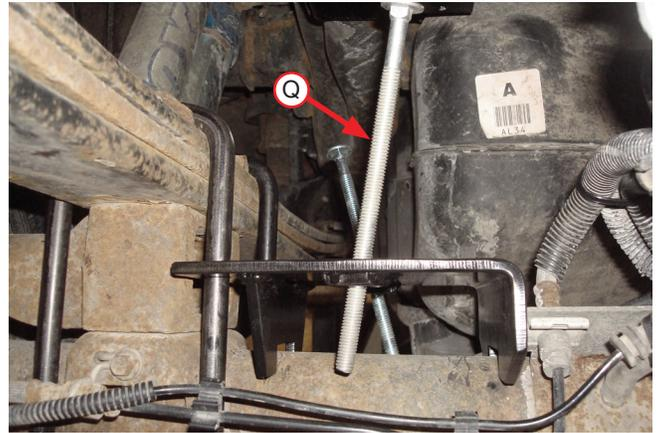
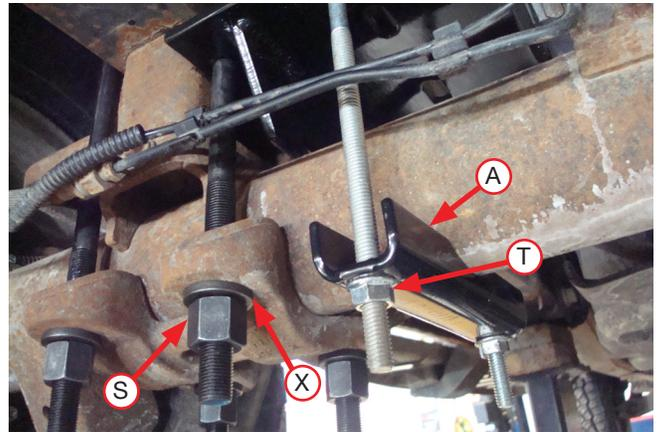

Fig. 13
Fig. 14
13. Insert the carriage bolts (Q) down through the holes in the upper bracket (Fig. 13), making sure the rear carriage bolts go between the hard brake lines and the axle (Fig. 14). Turn the heads of the carriage bolts so they index into the square holes in the bracket.
15. Install the lower clamp bar (A) over the carriage bolts previously installed and cap with 3/8" serrated flange lock nuts (T). Tighten finger-tight only at this time (Fig. 14).